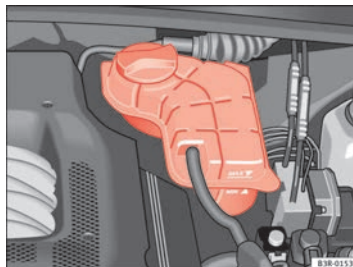

Fig. 172 Engine compartment: Liquid coolant deposit
- Check the coolant level on liquid coolant expansion tank $\Rightarrow$ fig. 172. When the engine is cold, it should be between the “min” and “max” marks. When the engine is hot, it may be slightly above the “max” mark.
- Cover the cap on the expansion tank ⇒ page 226, fig. 172 with a cloth, and **carefully** unscrew the cap anti-clockwise ⇒ .